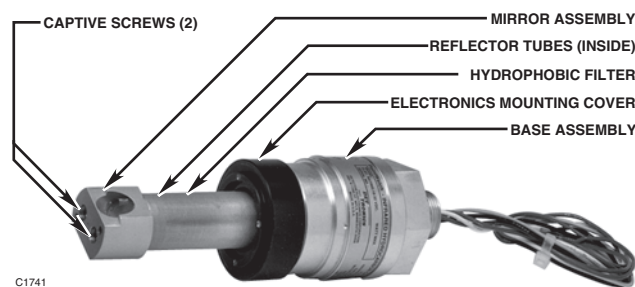

Figure 12—IR Module and Base Assemblies
- Unscrew the factory-tightened electronics mounting cover (see Figure 12) by rotating it counter-clockwise with the Cover Removal Tool (P/N 009170-001). Only apply torque to the threaded cover. Do not use improper tools such as pliers or vise grips. Do not twist or apply any force to the mirror assembly.
- Screw the electronics mounting cover clockwise onto the base assembly as shown in Figure 12.